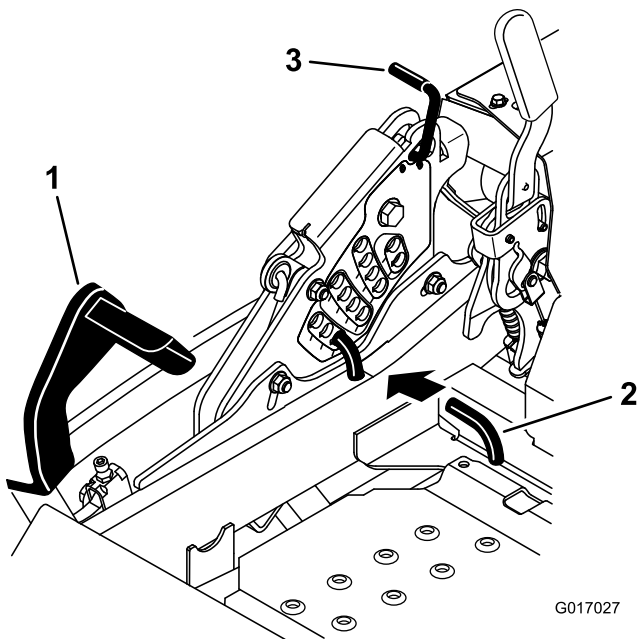

Figure 91
5. Push the deck lift pedal all the way forward and the deck will latch at the 14 cm (5-1/2 inch) transport position (Figure 91).